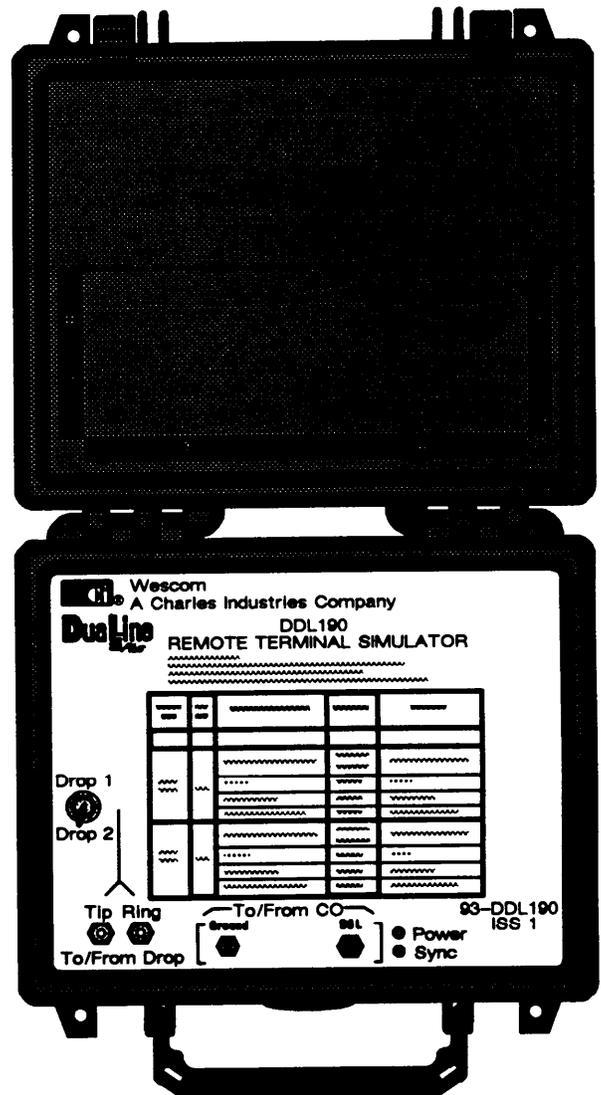

Figure 1. DDL190 DualLine Plus Remote Terminal Simulator
1.01 This Practice provides a general description of the Wescom DDL190 DualLine Plus Remote Terminal Simulator (RTS). The DDL190 RTS is depicted in Figure 1.